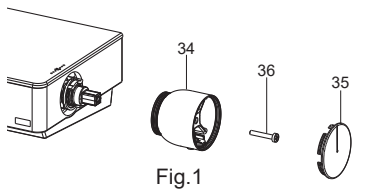

Fig.1
拆卸前确保温控把手(34)上的按钮垂直朝下。取下把手上盖(35)，用螺丝刀取出螺钉(36)，卸下温控把手(Fig.1)。
Before your action, ensure the button on the temperature handle(34) is downward vertically. Remove the plug(35). Remove the screw(36) with a screwdriver. Take out the temperature handle(Fig.1).